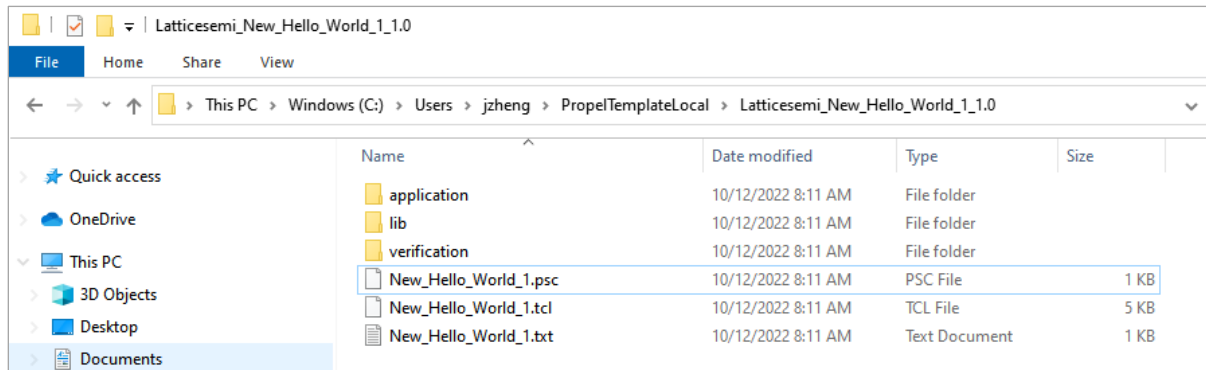

Figure 2.103. Export Template to PropelTemplateLocal Folder
- By default, after you click the **Generate** button, the new template can be installed to your custom template folder, which is a folder named **PropelTemplateLocal** under \$HOME (Figure 2.103).